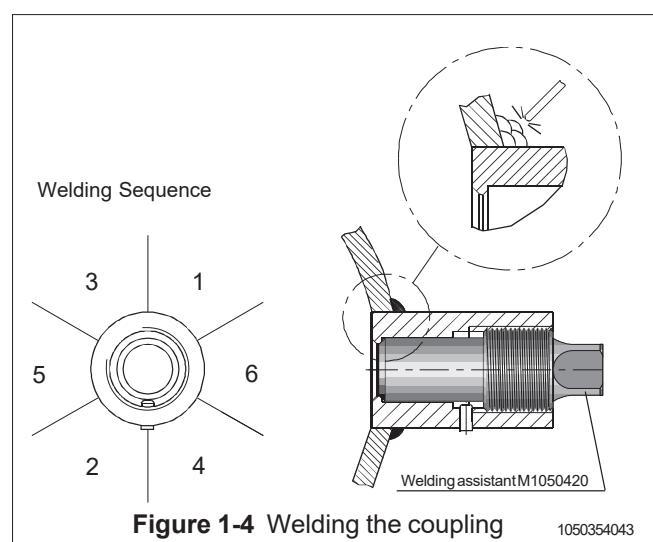

Figure 1-4 Welding the coupling
- Place the coupling in the mounting hole as shown in Fig. 1-4. Then weld with several runs so as to prevent the coupling's oval distortion and tightness problems.